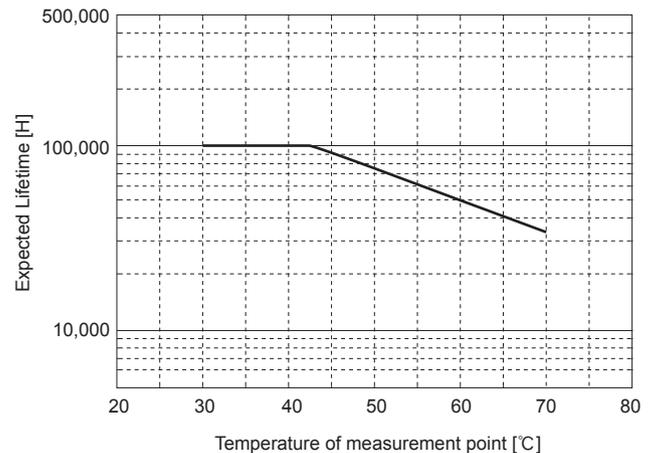
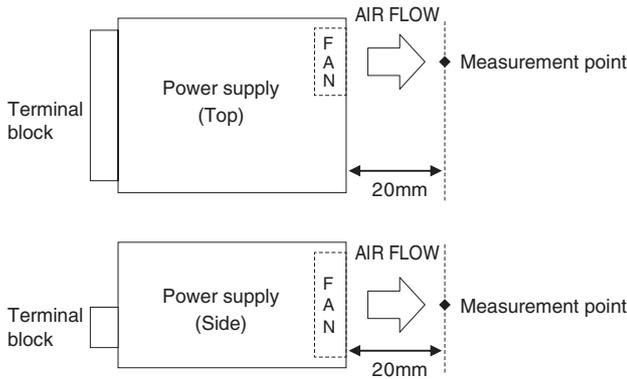

Fig.3.11 Expected lifetime of fan (PLA300F/PLA600F)
Fig.3.12 Temperature of measurement point for fan lifetime (PLA300F, PLA600F)
■ The built-in cooling fan should be changed periodically. The expected life time (R(t) = 90%) of the built-in fan depends on the operating condition as shown in Fig. 3.11 (PLA300F/PLA600F), Fig. 3.12 (PLA1000F/PLA1500F).